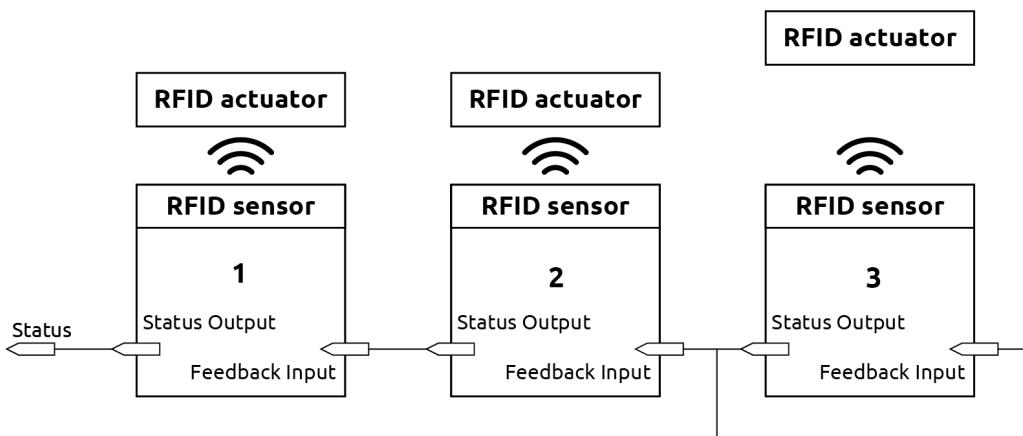

Figure 26 - Serial status modality encoding
- The time allowed to elapse from the activation of the OSSD outputs and the opening of the FBK contacts must be $t < 500\text{ms}$ (Figure 26).